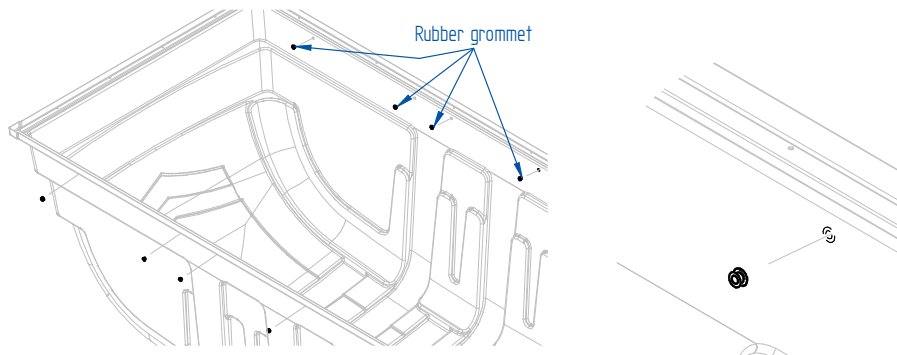

Figure 2
4. Install 8 rubber grommets to hinge holes on both sides as shown below. **See figure 2.**